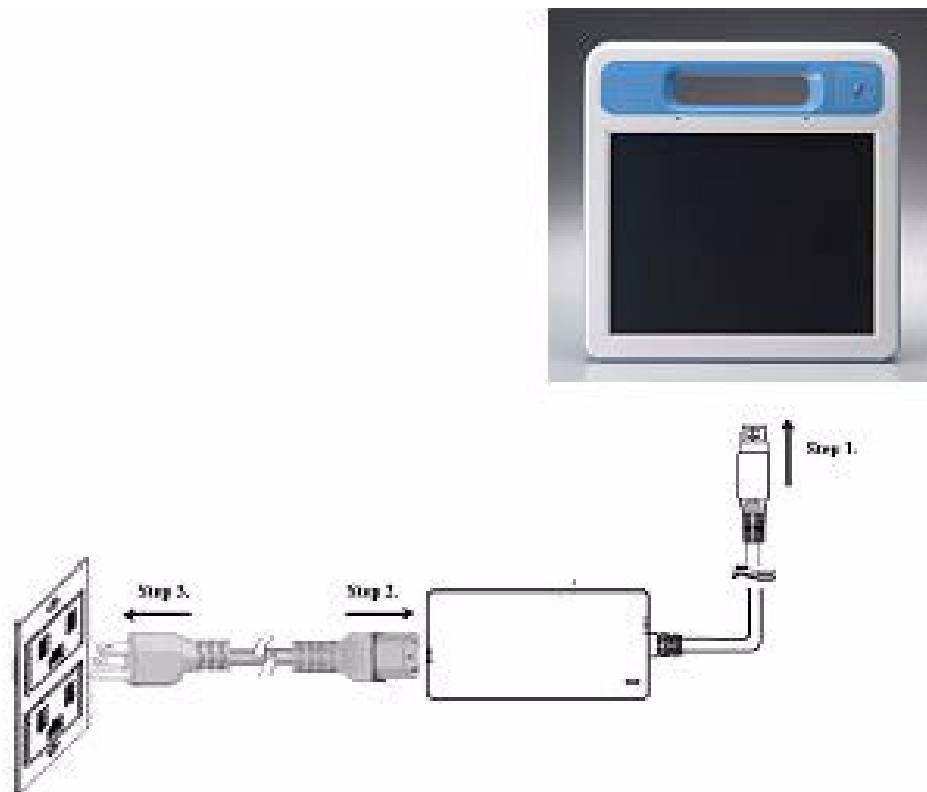

Figure 2.12 Connecting the AC Adapter Power Supplier
1. Connect the end of the AC Adapter cord to the DC Power inlet of MICA (See Figure 2.12.).